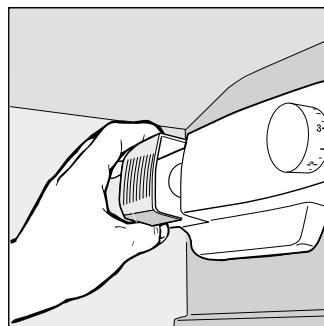

Fig. 4
- Replacing the light bulb. The bulb for lighting the interior of the appliance is located at the back of the thermostat box. Unscrew the burnt bulb and replace it with another bulb of no more than 15 Watt, follow the instructions illustrated in fig. 4.